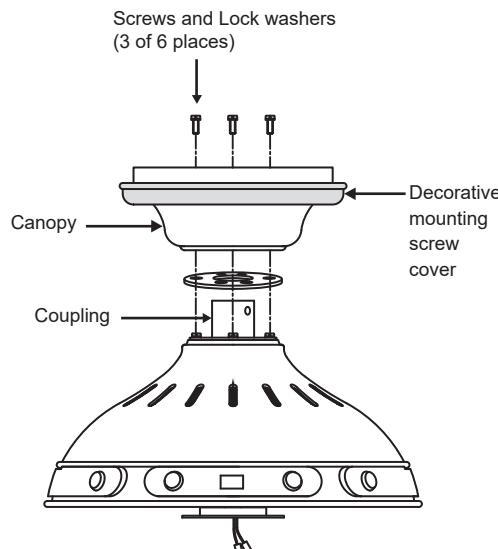

Fig. 9
**Step 2.** Remove three of the six screws and lock washers (every other one) from the coupler on top of the motor assembly. Place the ceiling fan canopy and the rubber gasket over the coupler and align the mounting holes with the holes in the coupler. Attach the canopy with the rubber gasket and the three screws and lock washers previously removed, and then push the decorative mounting screw cover "down" and let it rest on top of the motor housing. (Fig. 9)